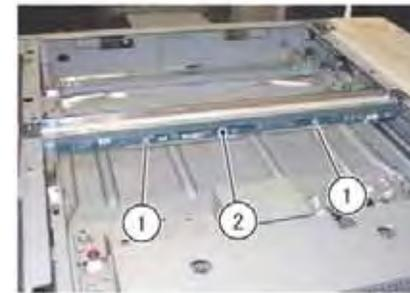

Figure 3 LED Lamp PWB Removal
7. Remove the LED Lamp PWB (Figure 3)